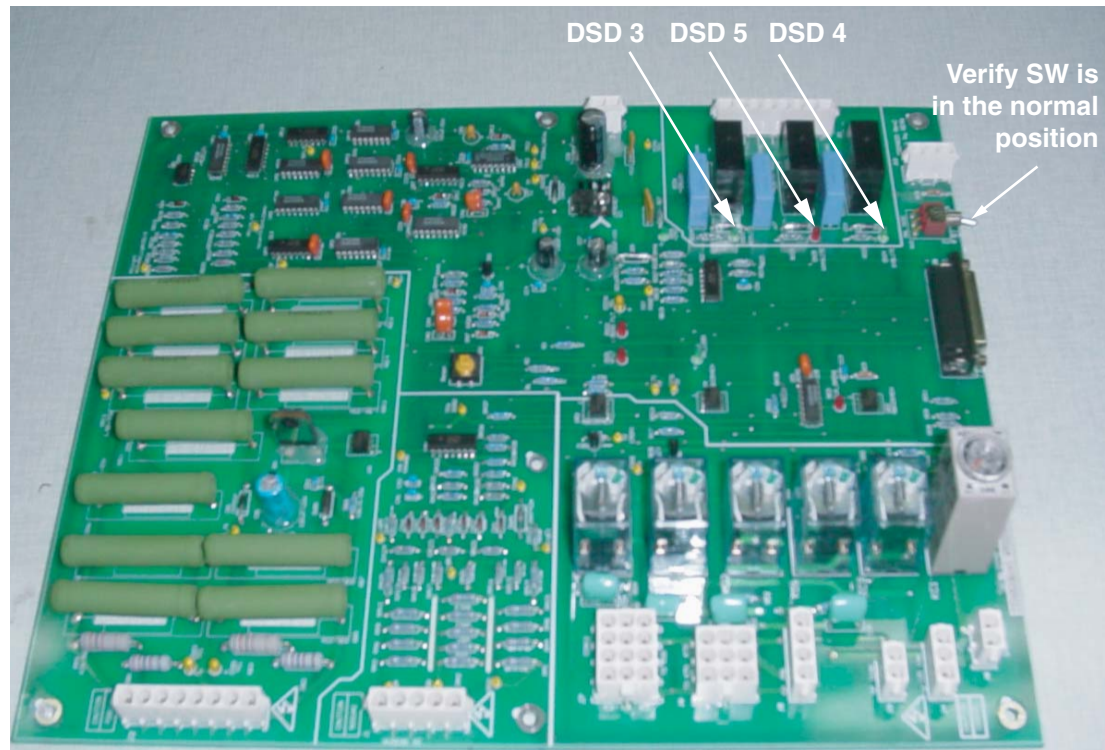

Figure 5-4 NGPDU Control Board
- 2.) When system is already, three lamps are both lighting (refer to Figure 5-4).